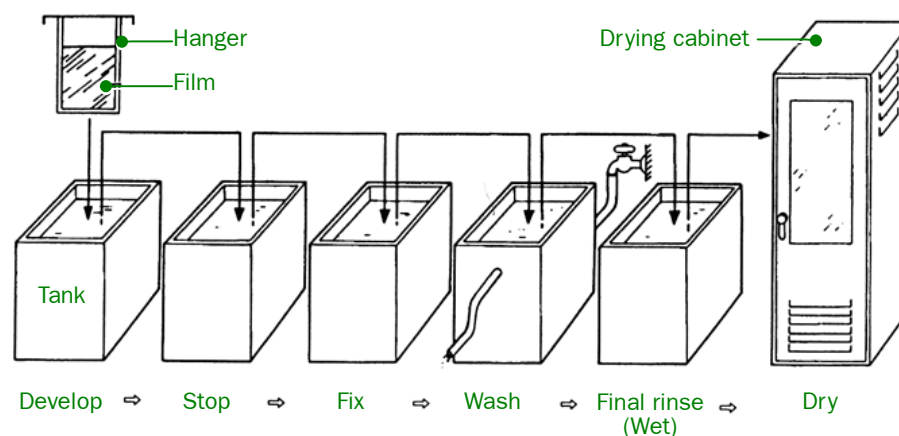

Fig. 5.52 Film processing
4. Immerse the film in developer (at $20 \pm 0.5^\circ\text{C}$); leave it in until the exposed image becomes sufficiently visible usually three or four minutes ( Fig. 5.52).